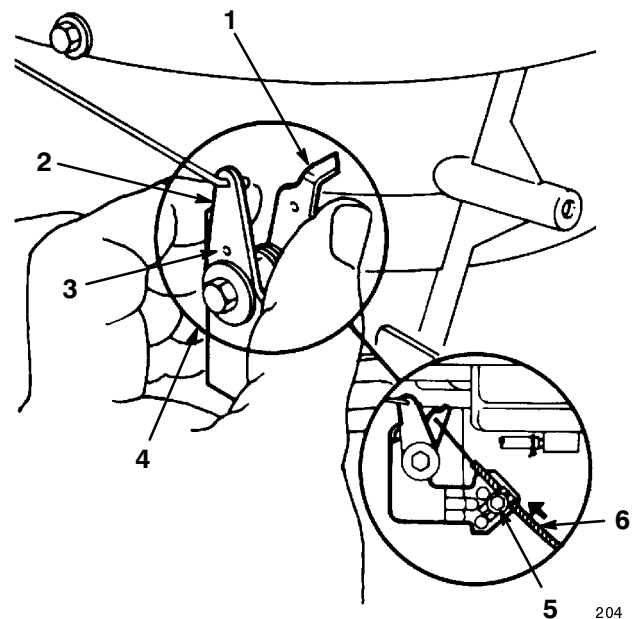

Figure 18
4. Loosen the clamp screw until the throttle control cable slides (Fig. 18).
5. Align the holes in the choke arm and the throttle bracket (Fig. 18).
7. Push the throttle control cable until the throttle arm makes contact with the choke arm (Fig. 18).